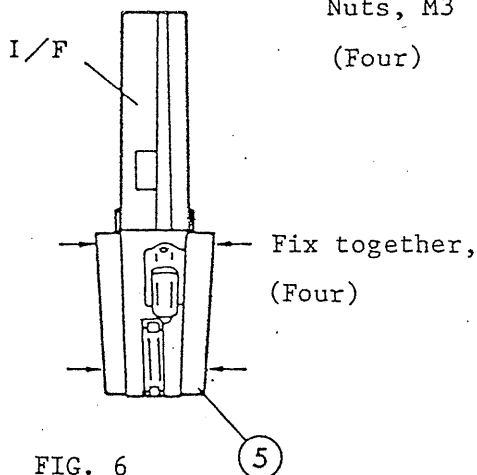

FIG. 6
- 3) Fix I/F angle ⑤ to the interface. (See Figure 6)